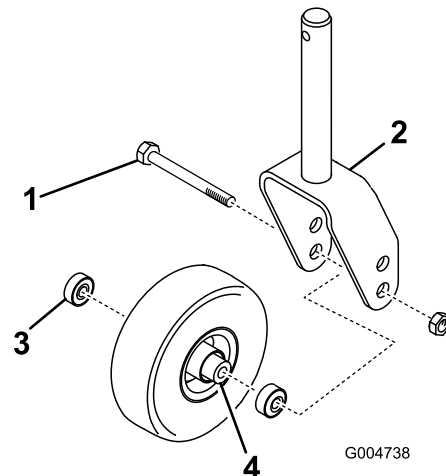
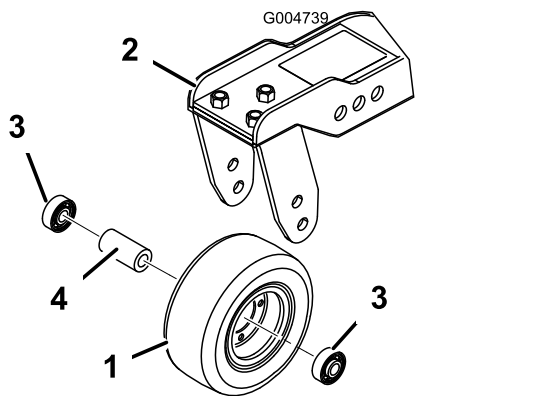

Figure 107
Figure 108
1. Remove the locknut from the bolt holding the castor wheel assembly between the castor fork (Figure 107) or the castor pivot arm (Figure 108). Grasp the castor wheel and slide the bolt out of the fork or pivot arm.
- Remove the bearing from the wheel hub and allow the bearing spacer to fall out (Figure 107 and Figure 108). Remove the bearing from the opposite side of the wheel hub.